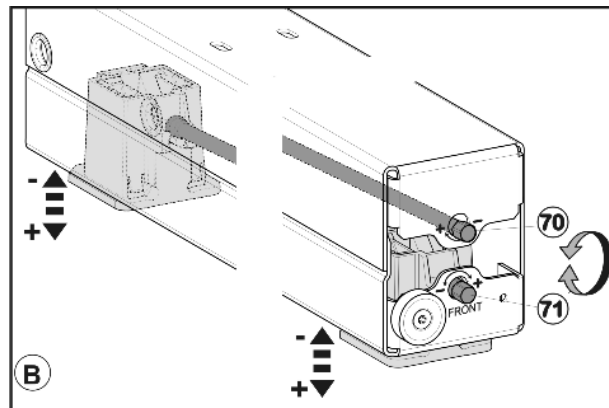

Fig. 51
- Align the height of both appliances evenly using the four roller bases. Use upper adjustment setting (1/4") Fig. 51 (70) for the rear adjustable foot and lower adjustment setting (1/4") Fig. 51 (71) for the front adjustable foot respectively. Turn clockwise to raise and counterclockwise to lower. Maximum adjustable height: 5/8 in (16 mm).